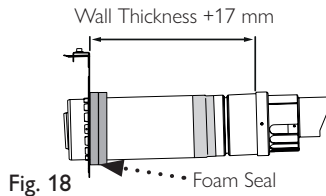
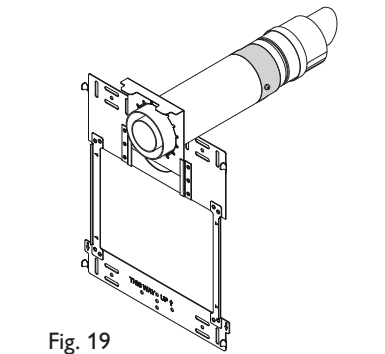

Fig. 18
Fig. 19
3. Apply the self-adhesive foam from kit 7215374 to the rear face of the sliding collar (Fig. 18). Wrap the foam around the flue twice. Engage the flue & collar in the channels on the frame (Fig. 19).